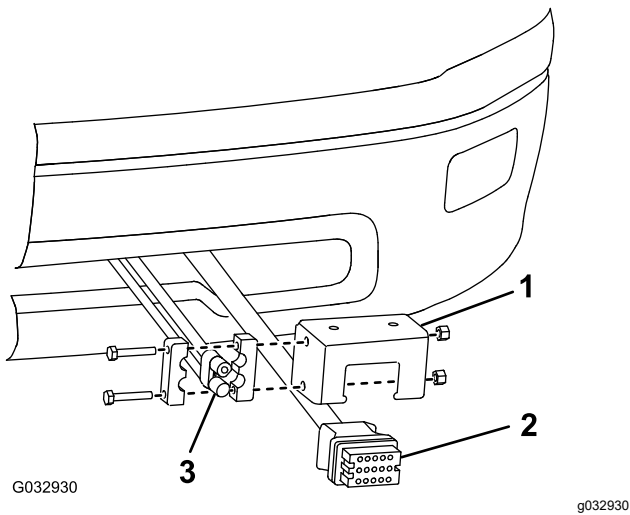

Figure 4
20. Mount the truck side, wire harness plow connector to the lower part of the bumper using the control harness mounting bracket (Figure 4).
1. Clips (8)
21. Mount the black and red power/ground connector to the control harness mounting bracket (Figure 4).